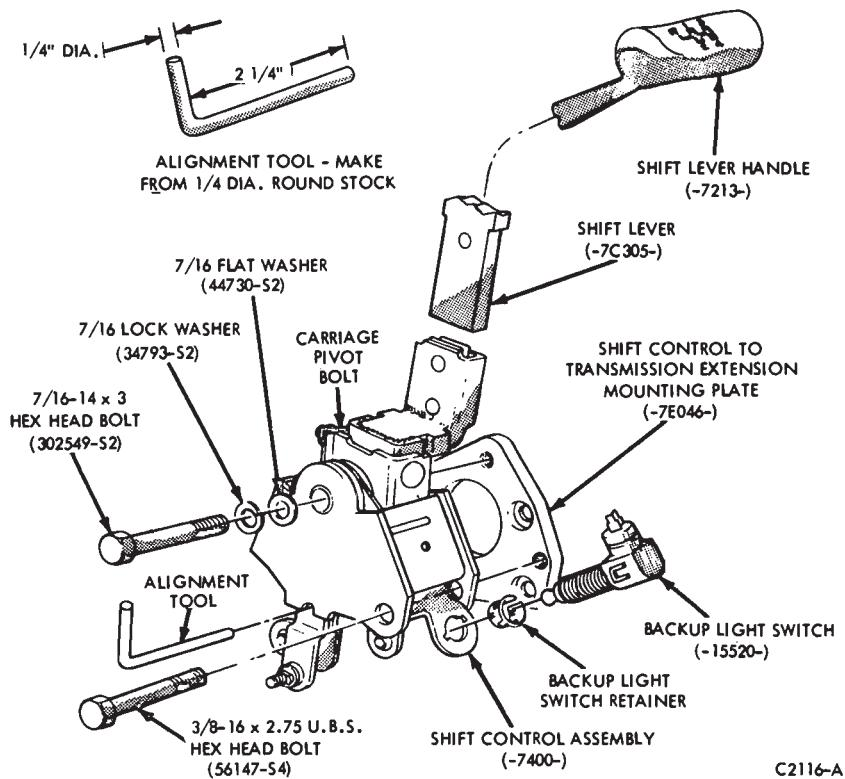

FIG. 4—Shift Control Assembly Removal
8. Remove the bolts, flat and lock washers attaching the shift control assembly to the mounting plate on the transmission extension housing and remove the shift control assembly (Fig. 4).